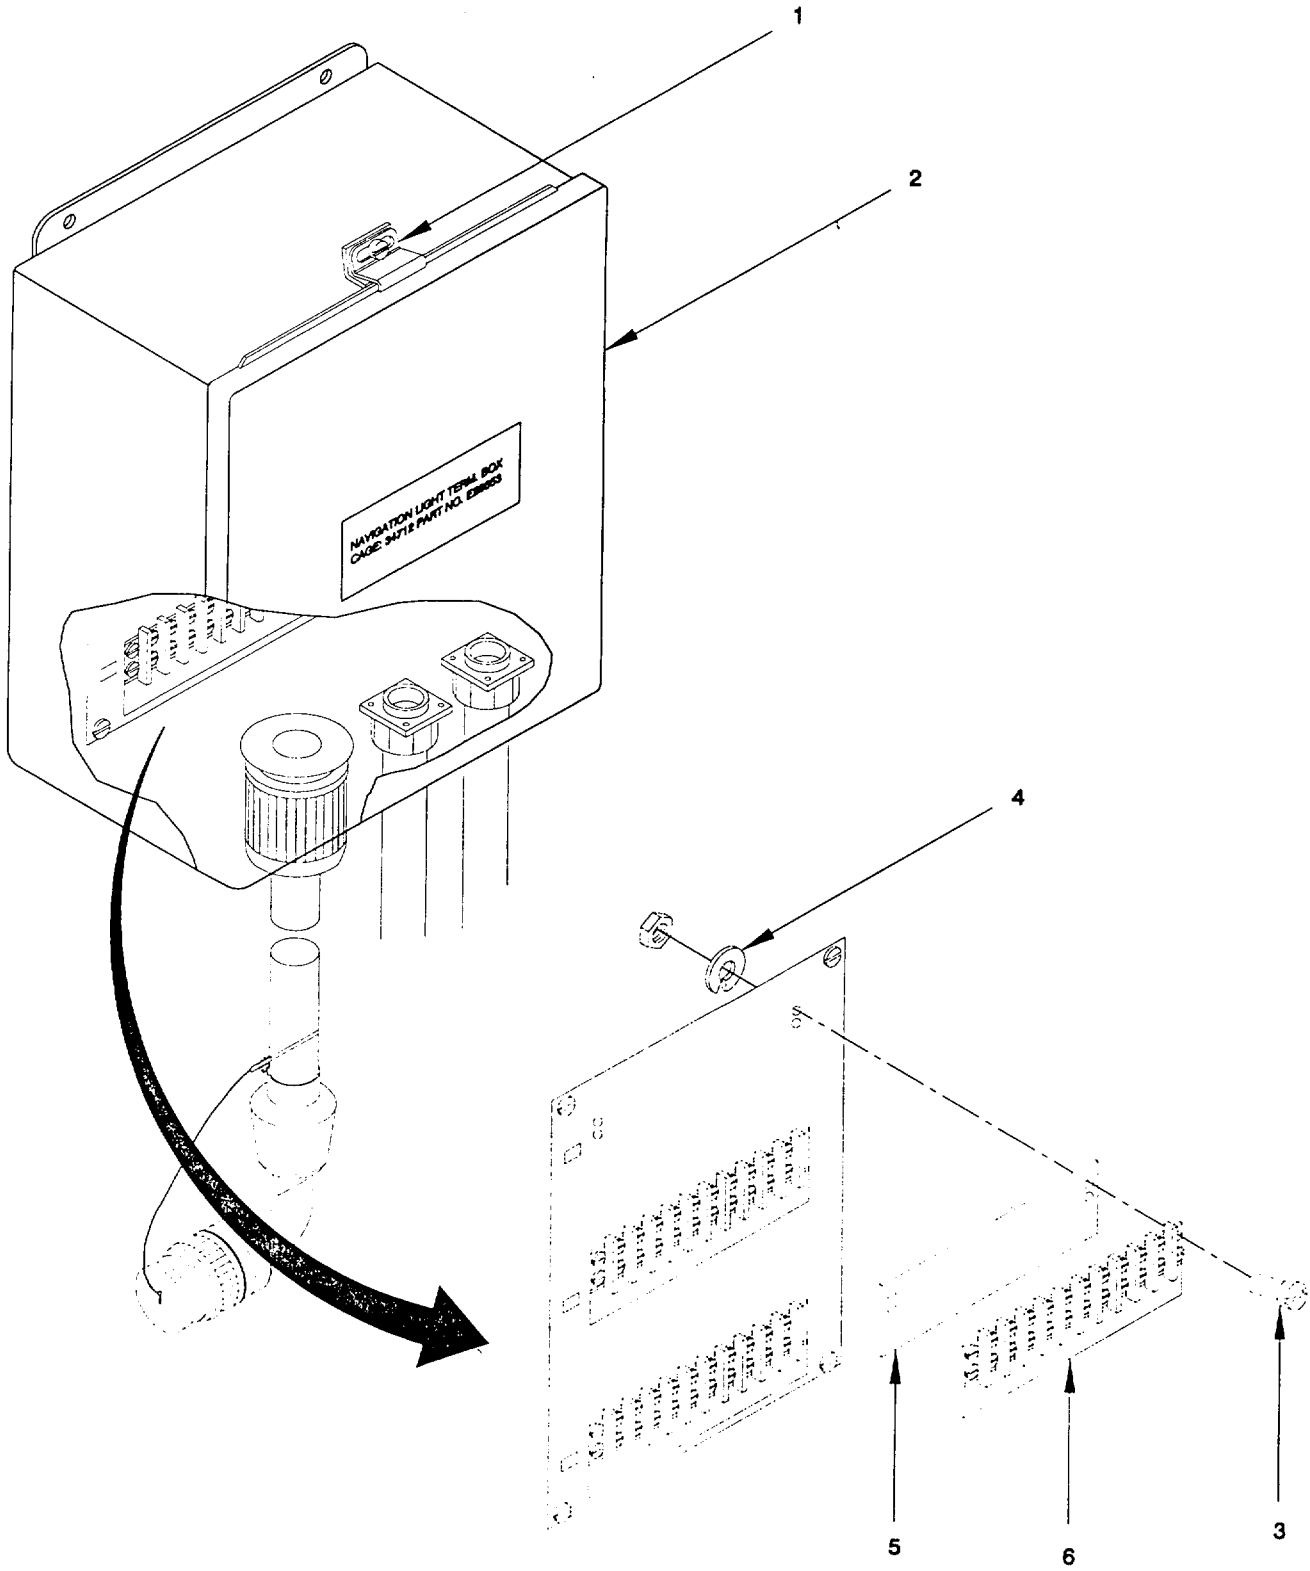

Figure 2-181. Terminal Block, Main Mast Navigation Assembly, Remove/Install.
- a. *Remove.* (figure 2-181)
- (1) Loosen four screws (1) securing cover (2) to enclosure. Swing cover open.
- (2) Disconnect and tag electrical wiring to terminal block. Refer to Appendix G.
- (3) Remove two panhead screws (3), two lockwashers (4) and marker strip (5) from panel within enclosure. Remove terminal block (6).
- b. *Install.* (figure 2-181)
- (1) Position marker strip (5) and terminal block (6) on panel and secure with two lockwashers (4) and two panhead screws (3)
- (2) Connect tagged electrical wiring to terminal block (6). Refer to Appendix G.
- (3) Close cover (2), apply antiseize compound to seven screws (1), and secure.